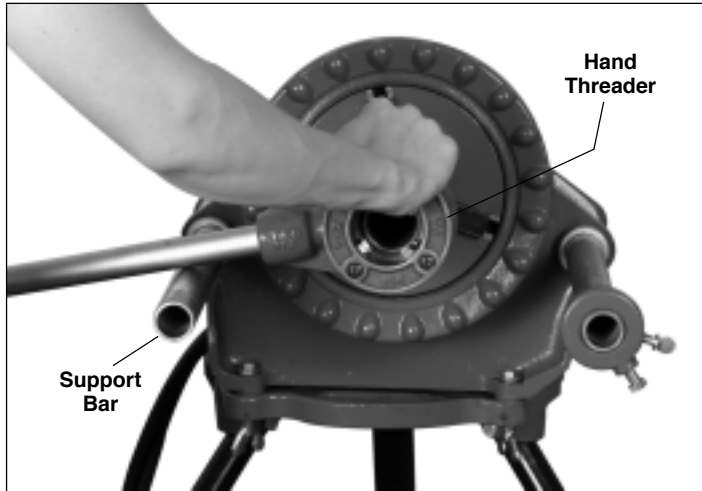

Figure 4
3. Rest PIPE CUTTER frame on SUPPORT BAR (Figure 4) located on switch side of machine. Tighten FEED SCREW HANDLE.
port bar (Figure 4) located on switch side.
4. Step on foot switch and push threader (Figure 4) with right hand to engage dies.
6. Push back support bar (Figure 4) on switch side.